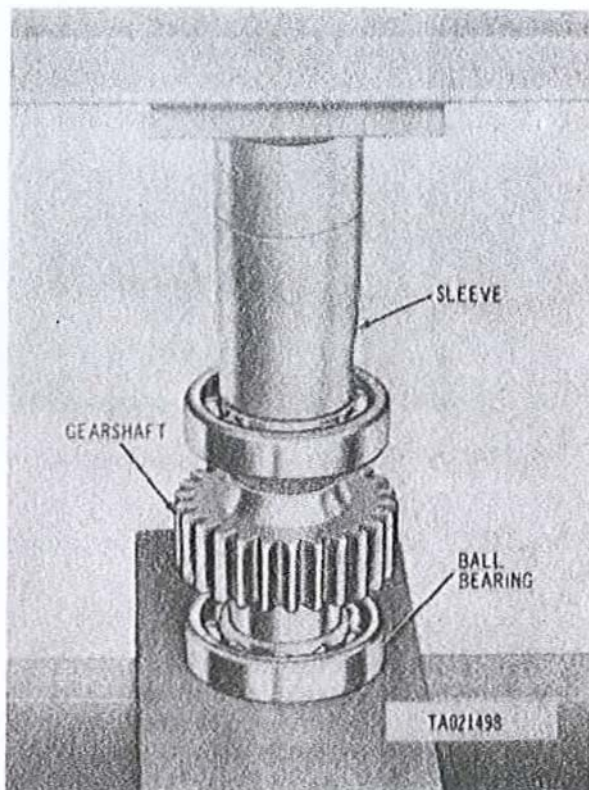

Figure 3-161. Pressing ball bearings in starter driven gearshaft. suitable arbor press. Press gearshaft from the front ball bearing in a similar manner.
(1) Coat ball bearing with engine oil and position bearing on bearing flange of gearshaft. Press lower ball bearing (fig. 3-161) on gearshaft using a suitable pressing sleeve on inner race of bearing. Coat upper ball bearing with engine oil and press bearing on opposite end of gearshaft in the same manner.
(2) Coat new oil seal with engine oil. Position